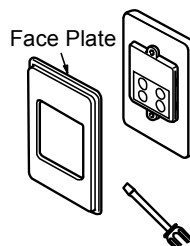

Fig. 3
4. Carefully remove face plate from the water controller, using a screw driver (Fig. 3).